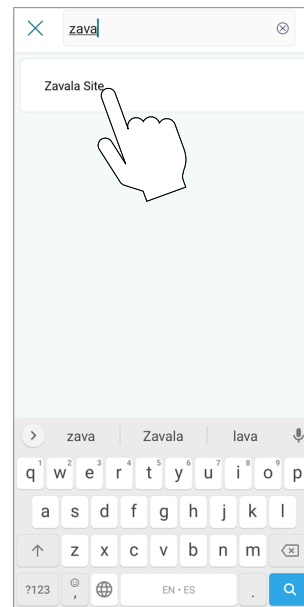

Figure 136. Choose Organization
4. "Choose organization" screen will be displayed and it will show all the available organizations. Navigate the sub Organization list or use the search tool to locate desired organization. See **Figure 136**.